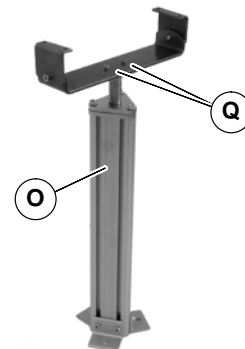

Figure 9
2. Assemble conveyor support (Q of Figure 9) to pillar (O) with M6 screws. Tighten screws to 140 in-lb (15 Nm).